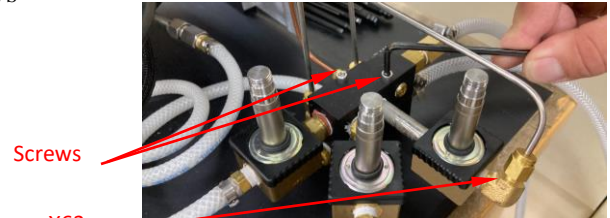

Figure 6
- b. Position the new X63 into place on top of the X64 Drain Manifold Assembly and secure it into place using the two screws. See Figure 6.